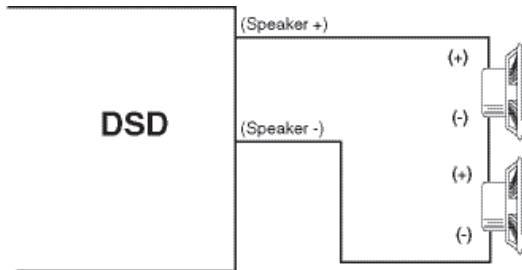

Figure 1
10. Wire the speakers in series as follows. First, trim 6.5" from the left purple speaker wire and thread one end of the trimmed piece through the backside of each speaker baffle end plate. Next, thread the wires that remain attached to the speaker harness through the backsides of the baffle end plates: thread the short segment through the end plate for the front speaker and the untrimmed segment through the end plate for the rear speaker. Solder one end of the trimmed 6.5" wire segment to the inner terminal of each speaker. Finally, solder the short harness wire to the outer terminal of the front speaker and the untrimmed harness wire to the outer terminal of the rear speaker. (Figure 1)